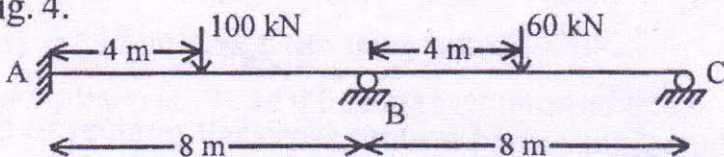

Fig. 4
- (a) Using the force method, determine the reactions and moments over supported of a continuous beam shown in Fig. 4.